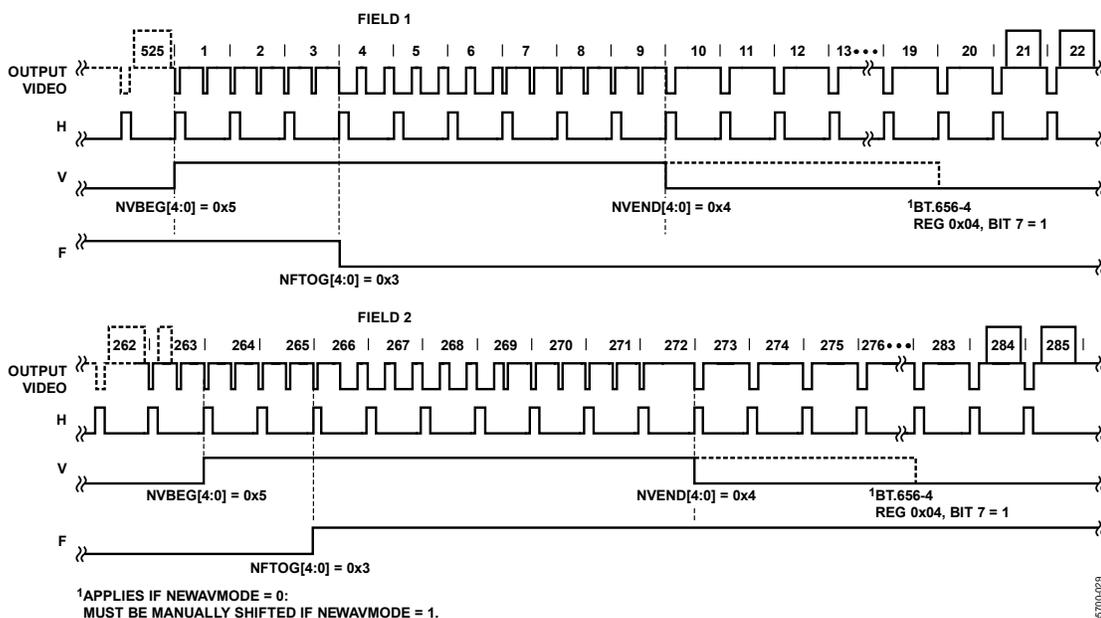
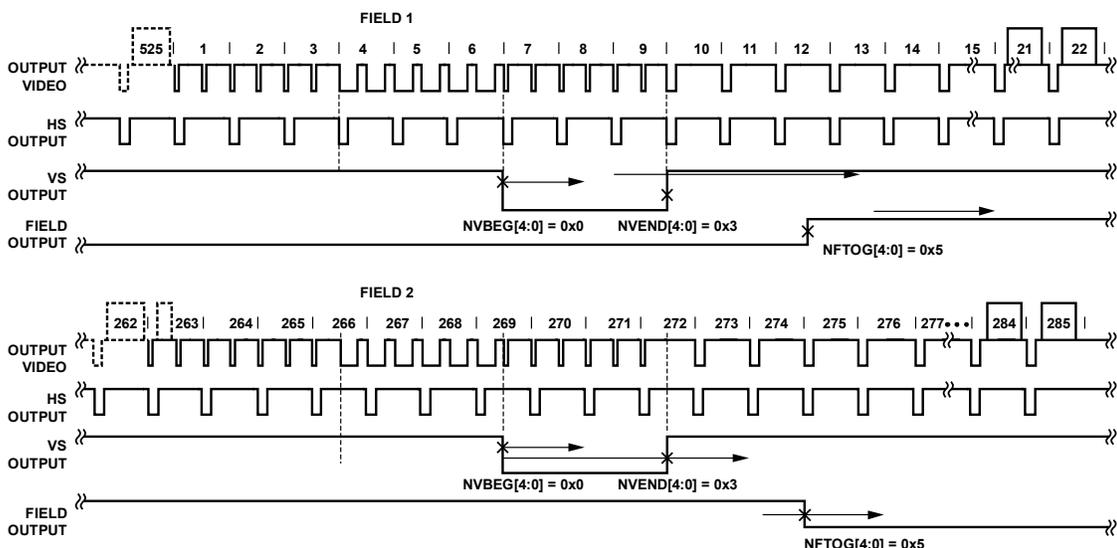
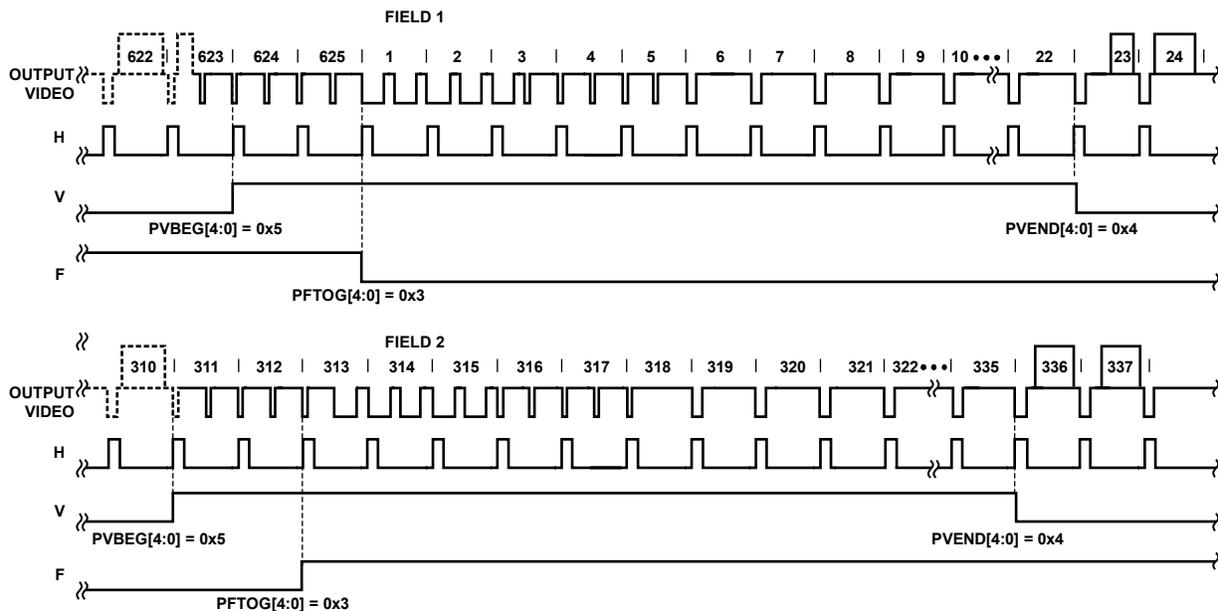
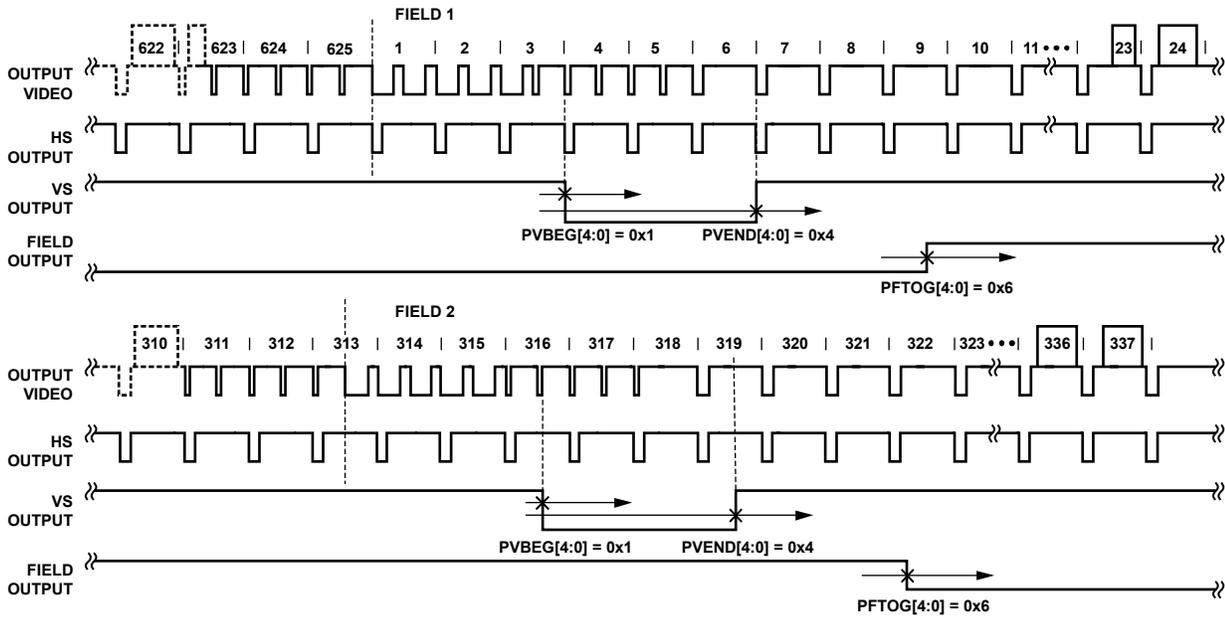

Figure 33. NTSC Default, ITU-R BT.656 (the Polarity of H, V, and F is Embedded in the Data)
Figure 34. NTSC Typical VSYNC/FIELD Positions Using Register Writes in Table 61
Figure 38. PAL Default, ITU-R BT.656 (the Polarity of H, V, and F is Embedded in the Data)
Figure 39. PAL Typical VS/FIELD Positions Using Register Writes Shown in Table 62
Setting NEWAVMODE to 1 (default) enables the manual position of the VSYNC, FIELD, and AV codes using Register 0x34 to Register 0x37 and Register 0xE5 to Register 0xEA. Default register settings are CCIR656 compliant; see Figure 33 for NTSC and Figure 38 for PAL. For recommended manual user settings, see Table 61 and Figure 34 for NTSC and Table 62 and Figure 39 for PAL.
**Table 61. User Settings for NTSC (See Figure 34)**